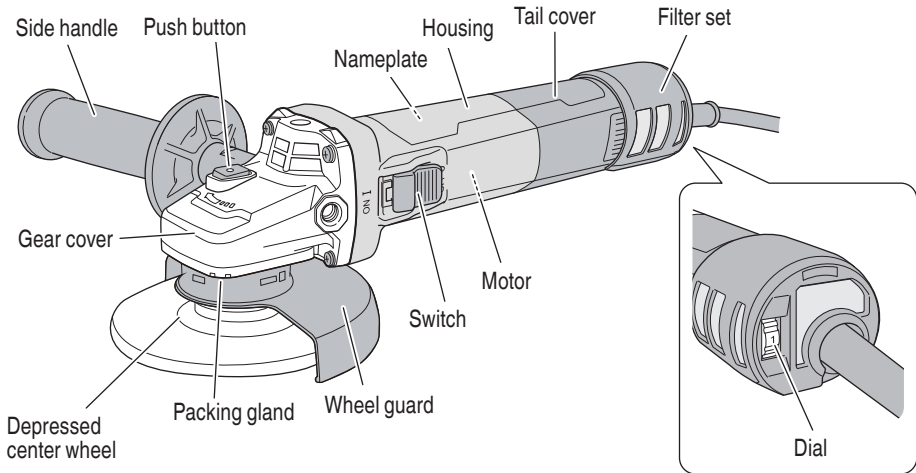

Fig. 1
- 1. Hold the grinder firmly by its housing and side handle (Fig. 1).